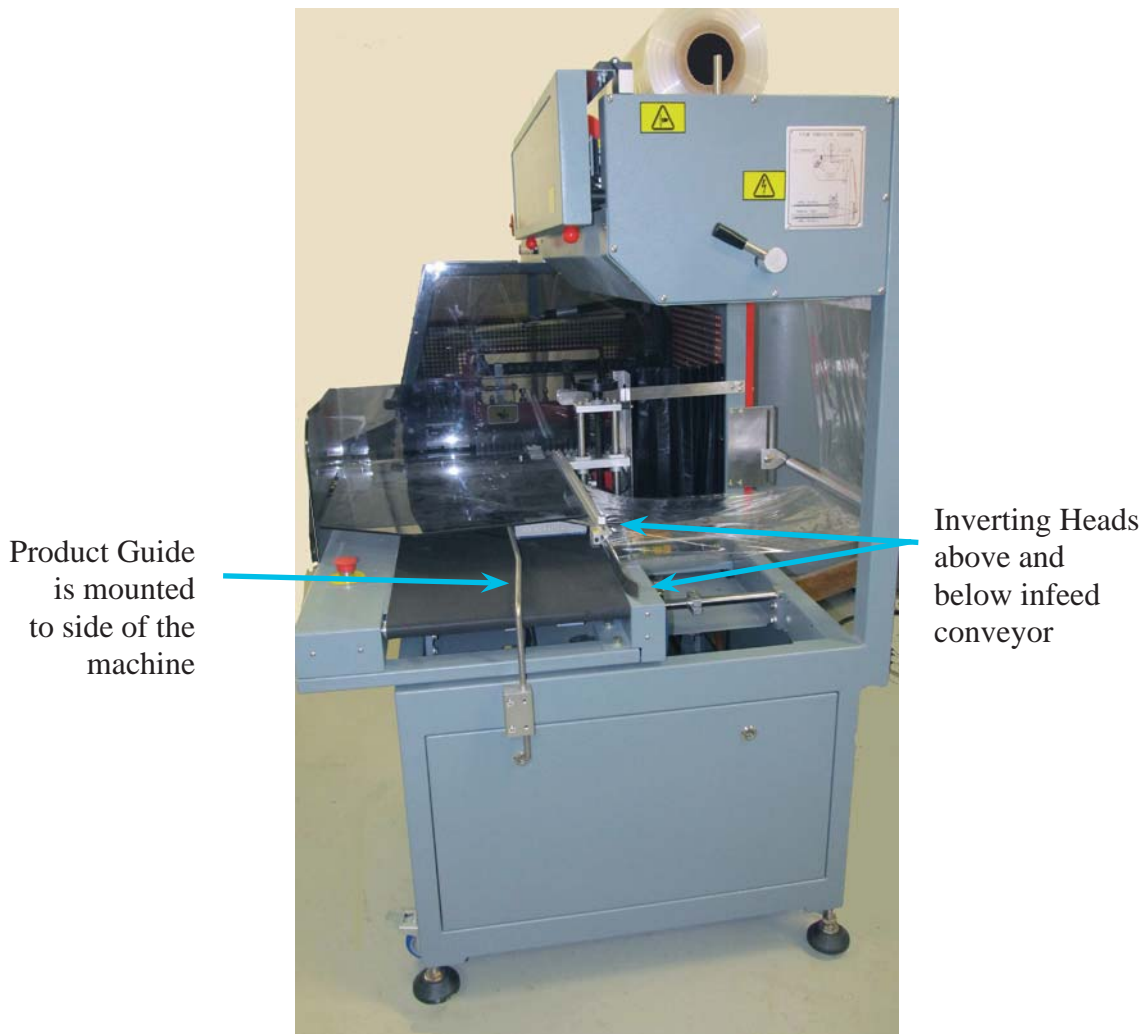

Figure 3-4 View FAL 5645 from the Infeed end
5. Adjust of the infeed conveyor relative to the product guide (Figure 3-4) by placing a product on the belt and then squeezing the handle on the front of conveyor unit. This will enable movement of the conveyor unit to the appropriate width which is W (Product Width) plus one-third of the product height.